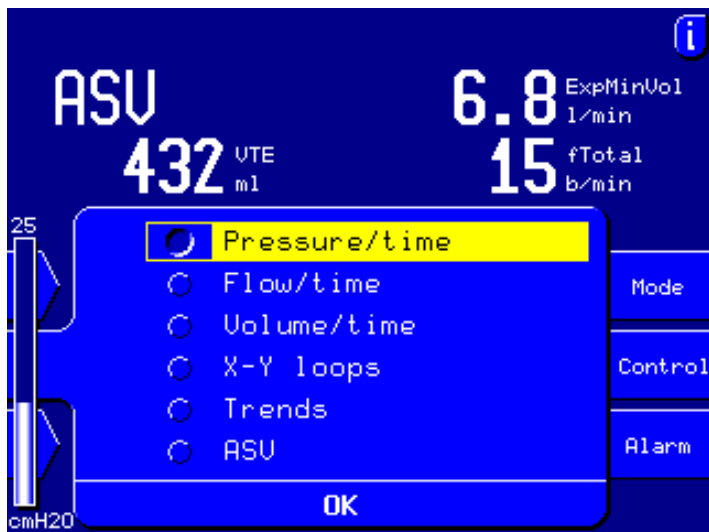

Figure 5-5. Graphic selection window
1. Press the graphic selection key to open the graphic selection window (Figure 5-5).